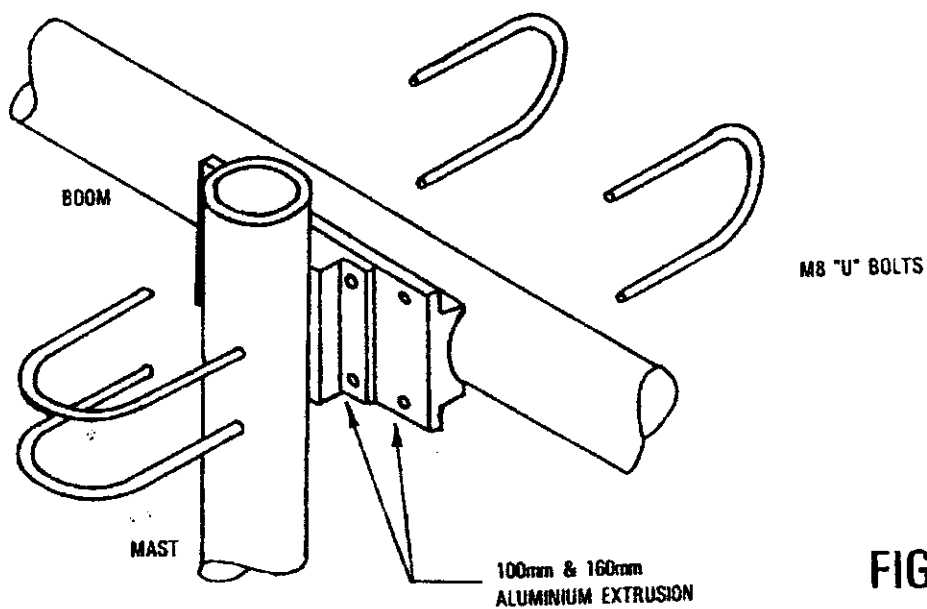

FIG. 5
11. Now assemble the boom to mast clamp. See FIG. 5 and attach it to the boom as close as possible to the centre of gravity or point of balance.